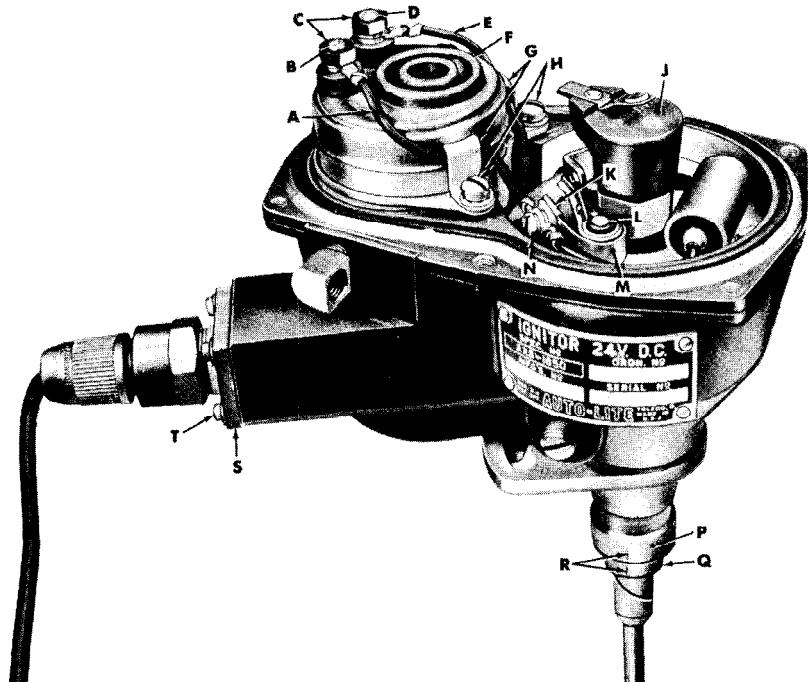

Figure 93. Aligning marks on distributor.
- (1) Disconnect all spark plug cables at the spark plugs and remove the No. 1 spark plug. Apply sufficient pressure to the fan belt and turn the fan drive pulley by moving the fan. Turn the fan until the timing indicator points to DC on the drive pulley (on compression stroke).
- (2) Disconnect the two vent lines at the elbows in the distributor base.
- (3) Remove the lockwasher screw that attaches the spark advance arm to the cylinder block. Withdraw the distributor sufficiently to disconnect the primary cable at the distributor. Remove the distributor and the mounting gasket.
- (4) Scribe alining marks on the distributor base and the drive shaft collar (P and Q, fig. 93) to insure proper engagement of the drive shaft end with the distributor drive gear slot when installing the distributor.
- (1) Remove distributor (par. 125a).
- (2) Remove cap cover (par. 127a(2)).
- (3) Pull the rotor (J, fig. 93) from the distributor shaft.
- (4) Remove the spring clip screw (N, fig. 93), lockwasher, and plain washer that secure the breaker spring clip to the breaker plate and remove the breaker spring clip (K, fig. 93). Remove the breaker point lockwasher screw (K, fig. 96) and remove the breaker points.
- (3) Apply a drop of light engine oil to the pivot pin (L, fig. 93) and install the stationary breaker point on the breaker plate.
- (4) Position the breaker spring clip (K, fig. 93) over the breaker point spring (M, fig. 93), alining the holes in the clip, the spring, and the clip post. Aline the capacitor cable terminal and the breaker point cable terminal with the clip post hole. Install a No. 6 lockwasher on a No. 6-32NC x $\frac{5}{16}$ screw, followed by a No. 6 flat washer. Install the spring clip screw (N, fig. 93) with washers through the cable terminals, clip post hole of the breaker spring clip (K) and the breaker point spring, and tighten the screw into the clip.
- (5) Install the rotor (J) on the distributor shaft.
- (6) Adjust breaker point gap (par. 129).
- (7) Install cap cover (par. 127c(5)).
- (8) Install distributor (par. 125b).
- (9) Adjust ignition timing (par. 126c).